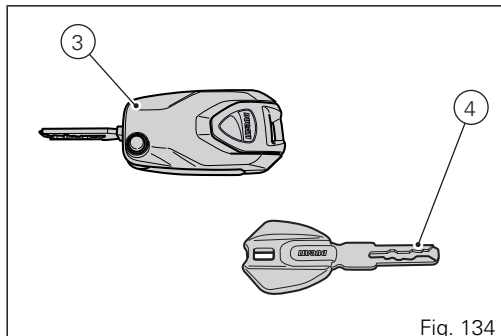

Fig. 134
Key-On can be performed by pressing button (6) on the handlebar and with the presence of the active key (3, Fig. 134).
Key-Off can be performed by pressing the button (6) on the handlebar. It can also be performed without the key (3, Fig. 134) only if motorcycle speed is equal to zero.
Key-On can be performed by pressing button (7) on the Hands free unit (1, Fig. 129) and with the presence of the active key (3, Fig. 134).
Key-Off can be performed by pressing button (7) on the Hands free lock (1, Fig. 129), also without the key (3, Fig. 134).
Key-On can be performed by pressing the grey button (6) on the handlebar and with the presence of the passive key (4, Fig. 134).
Key-Off can be performed by pressing the grey button (6) on the handlebar. It can also be performed without the key (4, Fig. 134) only if motorcycle speed is equal to zero.
Key-On can be performed by pressing button (7) on the Hands free lock and with the presence of the passive key (4, Fig. 134).
Key-Off can be performed by pressing button (7) on the Hands free lock (1, Fig. 129), also without the key (4, Fig. 134).
Key-On can be performed by pressing button (7) on the hands free lock (1, Fig. 129) without the presence of the keys (3, Fig. 134) and (4, Fig. 134) and entering the pin code on the instrument panel.